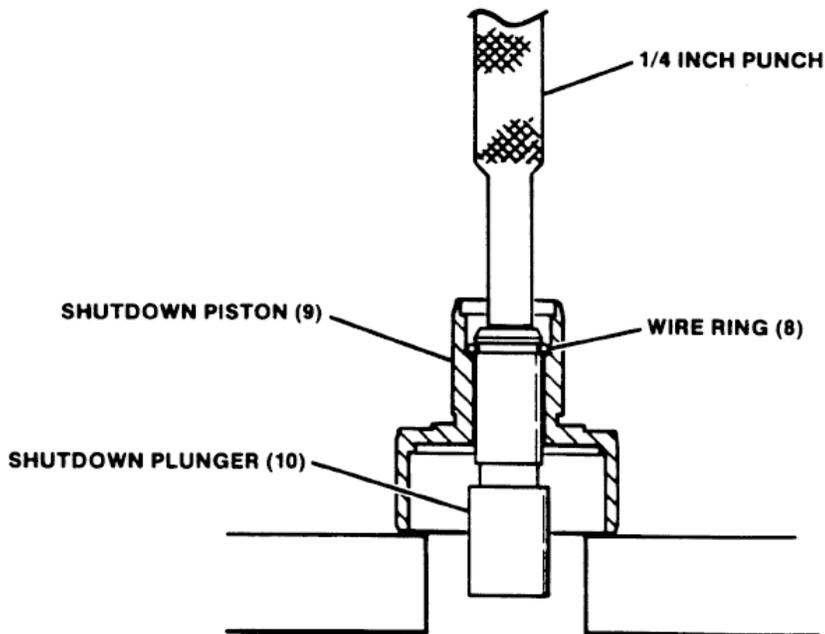

Figure 3-1. Setup to Remove Wire Ring (8) from Shutdown Plunger (10)
| Figure 3-1. Setup to Remove Wire Ring (8) from Shutdown Plunger (10).....  | 6  |
5. Remove wire ring (8) from shutdown plunger (10). Refer to Figure 3-1. Use a 1/4 inch (6 mm) punch and arbor press to push the shutdown plunger (10) through wire ring (8) and piston (9).